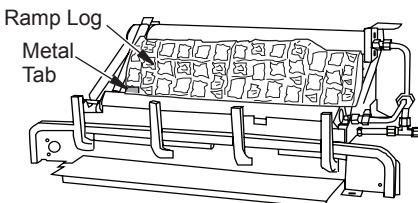

Figure 38 - Installing Fiber Ramp Log
2. Place fiber ramp log in center of chassis as shown in Figure 38. The fiber ramp log can be identified by the shape and much lighter weight when compared to the other logs. The log must sit flat on the black sheet metal and behind the left metal tab as shown. Make sure the side marked "BOTTOM" is setting down.